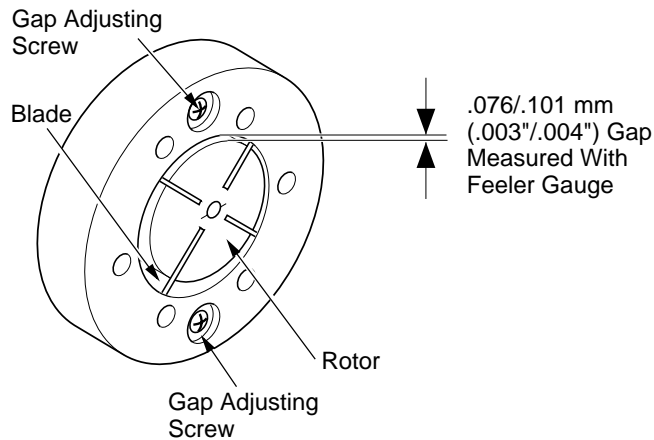

Figure 25 - Gap Adjusting Screw Locations
9. Check gap on rotor. Adjust to .076/.101 mm (.003"/.004") if needed (see Figure 25, page 13).